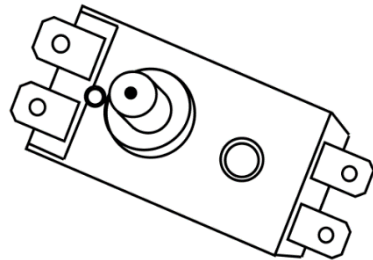

Fig 6**
4. Screw the safety relief valve on the inlet nozzle, which is marked in blue and has a water flow direction arrow in such a way that the water flow coincides with the direction of the arrow on the valve body. Put the water drainage tube* (water may appear during heating) on the pressure relief port of the safety relief valve to allow water drainage into the sewer (see Fig. 6) (the tube must be directed downwards and must not be bent).
- Press the button located in the center of the thermal switch (round shape, near the heating element) until you hear a click, see Fig. 6;